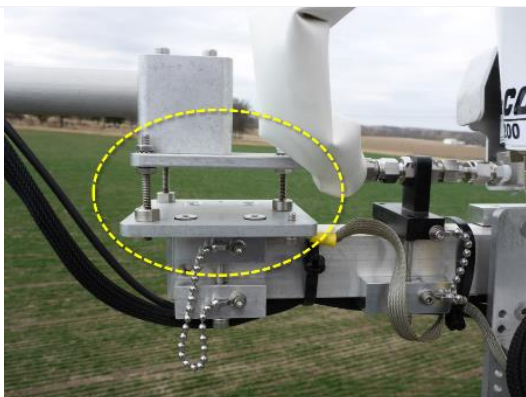

Figure 84. CSAT3 Leveling Plate.
STEP 11 | For reinstallation, level the CSAT3 3D Sonic Anemometer by adjusting nuts on levelling plate (**Figure 84**). Additional details are in the following section